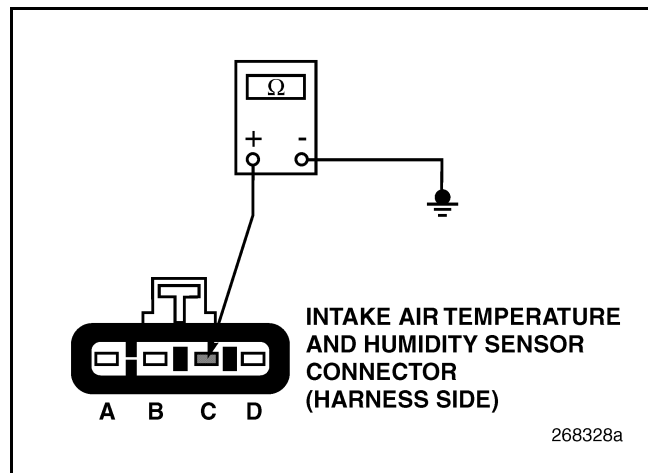

Figure 339
3. Check for continuity between IATH Sensor harness connector pin C (ground line) and a good ground (see Figure 339).